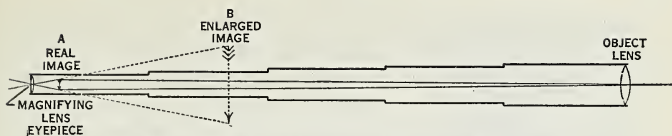

Fig. 258. How an astronomical telescope magnifies.
**Seeing distant things.** To see a distant star, a large number of light rays are collected by a large object lens or objective (Fig. 258). The objective forms an image of the distant body at A and the eyepiece magnifies this image and forms an enlarged second image at B. The great telescope at the Yerkes Observatory in Wisconsin has an objective 40 inches in diameter mounted in a tube 63 feet long. The 100-inch telescope at the Mount Wilson Observatory, California, uses a concave mirror instead of an objective lens to collect the rays of light from the distant heavenly bodies.